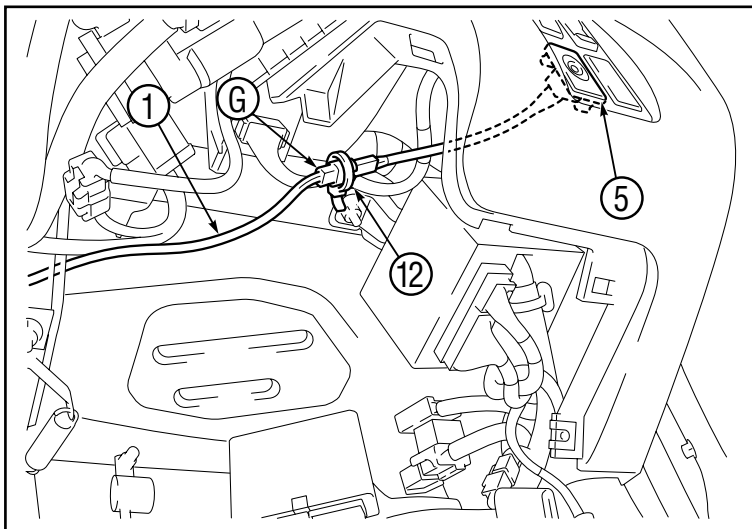

Figure 25
- a) Connect the 2P connector ⑥ (clear) of TVSS wire harness (main) ① to the status monitor ⑤ 2P connector (clear).
- b) Secure the 2P connectors ⑥ at the position shown in Fig. 25 using the wire tie ⑫ (1x).